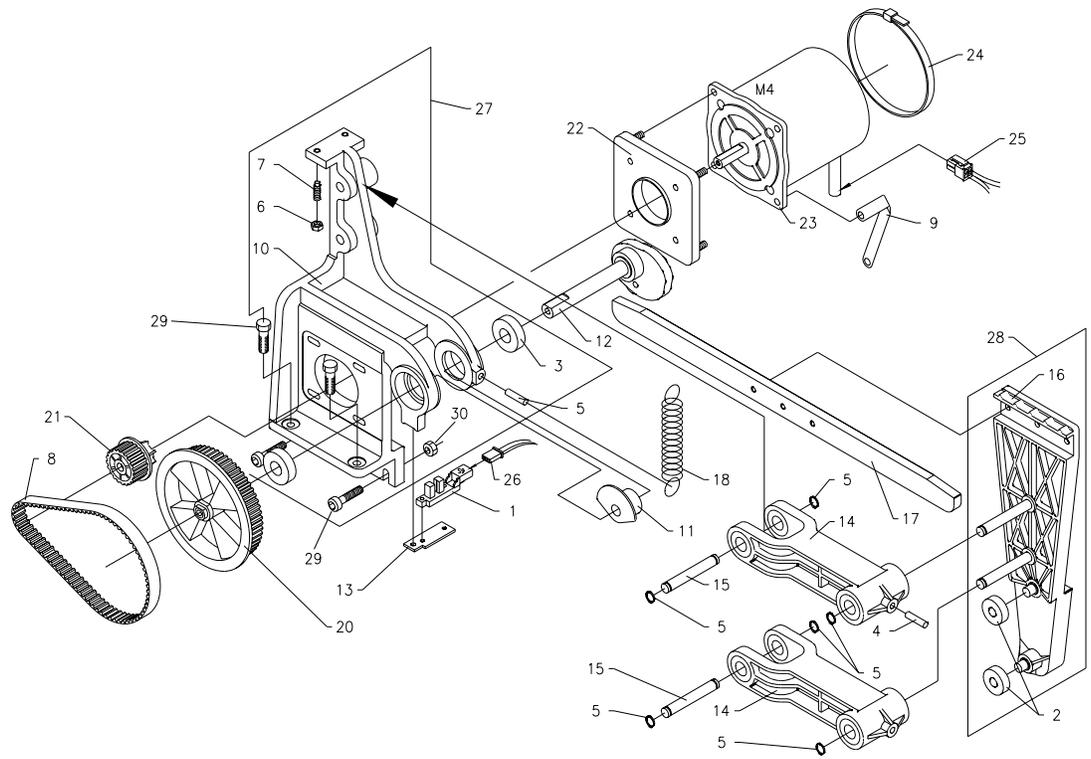

Figure 7-34
7. Loosen the two retaining bolts (Item 29, Figure 7-34) and two retaining nuts (Item 30, Figure 7-34) at the base of the cam assembly. Slightly loosen, the dog point setscrews at the top (Item 7, Figure 7-34).
9. Retighten all screws. When tightening the alignment setscrews at the top, avoid overtightening them as they can bend the side clamp linear actuator case. When the jam nuts (Item 6, Figure 7-34) are tightened, the setscrews will be held securely.
The cam encoder disk (Item 11, Figure 7-34) allows the CPU to accurately position the cam to provide the three side clamp openings - closed, small opening, large opening. If the encoder is not positioned properly, the machine will not run and status code 41 or 42 will be displayed.